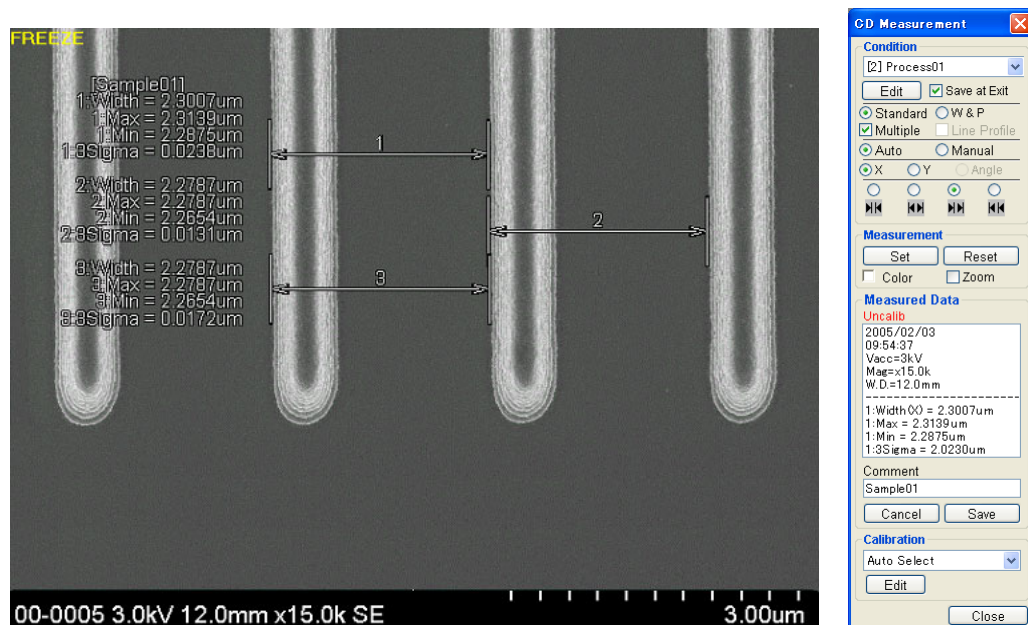

Fig. 6.4-26 Successive Auto Measurement Results
(4) Successive Auto Measurement
- (d) In the same way, click **Set** button and set the cursors, then click **Measure** button and successive measurement can be achieved as shown in Fig. 6.4-26. In the case of auto measurement, a maximum of four successive measurements is possible.